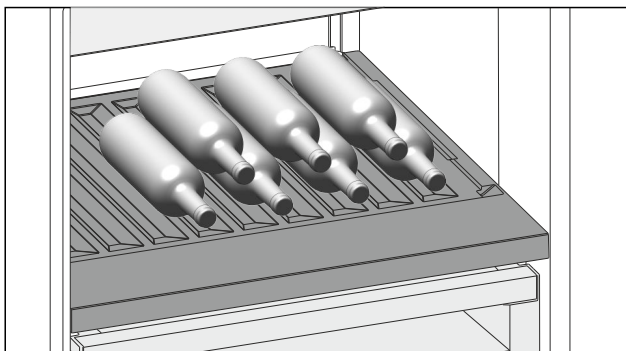

Fig. 142
- ▶ Place bottles in the back row with their bases against the back wall. (see Fig. 142)